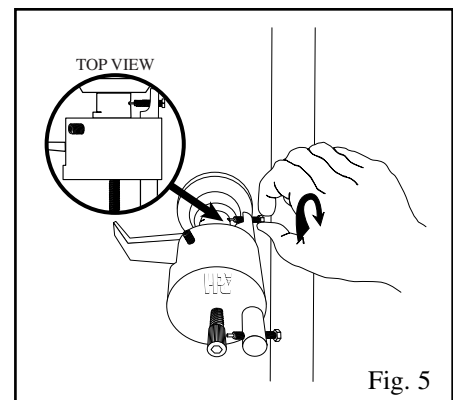

Fig. 5
5. Line up the Pin Depressing Screw with the lever lock handle retaining-pin and tighten slowly, depressing the pin. Only depress the retaining pin enough to clear the thickness of the handle. This is done to hold the retaining pin in while removing the lever handle (see fig. 5).